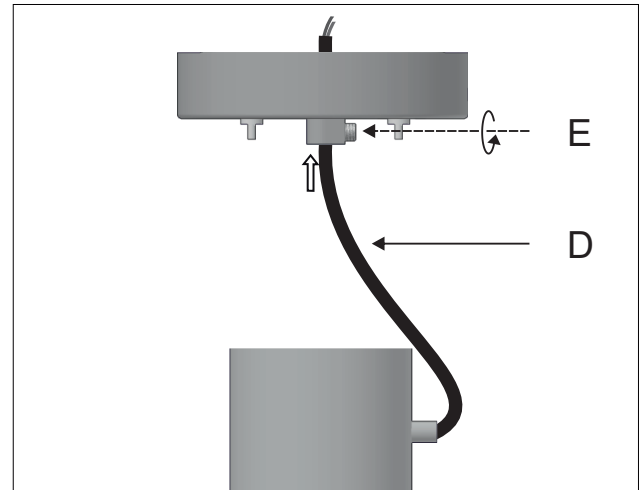

Figure 3
3 - Run the lamp electrical cable (D) through the canopy and fix it with the cable ties (E). Figure 3.